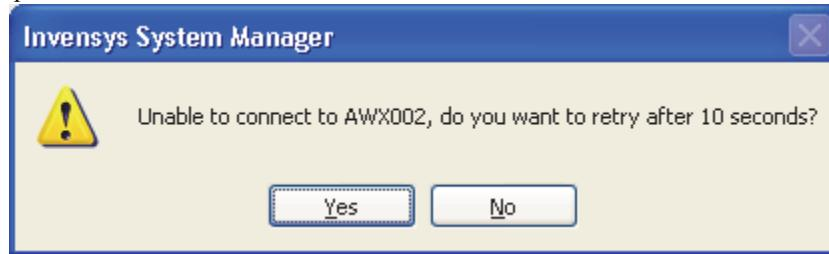

Figure 2-22. Unsuccessful Connection to System Manager Service
- Click **Yes** if you want to connect to the same System Manager service, and the status bar should indicate that the workstation is connected. If the connection is not successful, the dialog box in Figure 2-22 appears allowing you to periodically retry the connection.
If the connection is not successful, the dialog box in Figure 2-22 appears allowing you to periodically retry the connection. Click **Yes** to retry the operation and **No** to cancel.